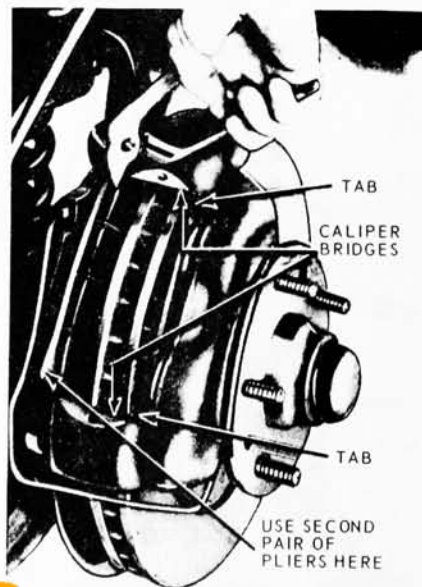

FIG. 11—Removing Disc Brake Shoe and Lining Assembly
4. Grasp the metal flange on the outer end of the shoe with two pairs of pliers and pull the shoe out of the caliper (Fig. 11).
1. Position a new shoe and lining assembly on each side of the rotor so that the lining faces the rotor. Be sure that the tabs on the shoe flanges seat fully against the caliper bridges (Fig. 11).